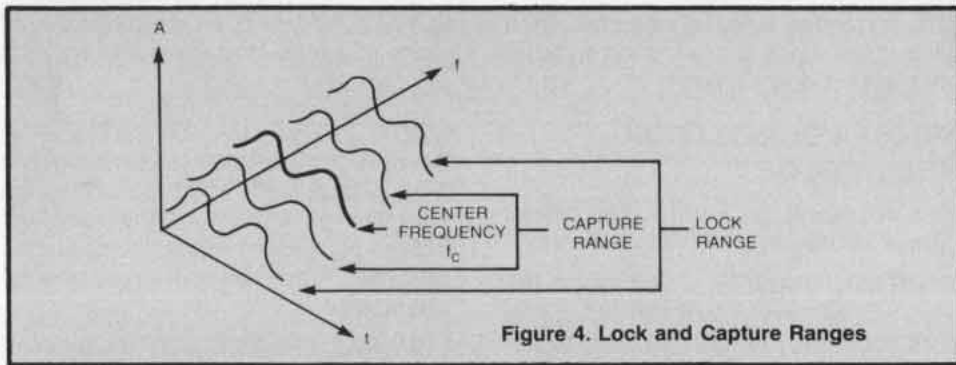

Figure 4. Lock and Capture Ranges
**LOCK AND CAPTURE** — The range of frequencies over which the PLL can track an input signal is defined as the "lock range" of the system (refer to Figure 4). The band of frequencies over which the PLL can acquire lock with an incoming signal is known as the "capture range" of the system is never greater than the lock range. Stated another way, the PLL can track or maintain lock on an input signal beyond the capture range. Note that the